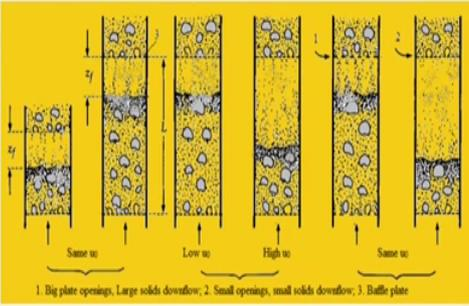

Fig. 5:
- Figure 5 illustrates how changes in the different variables will influence the interchange rate of solids between stages.
Figure 5 here in this case shows that that; how change in the different variables will influence the interchange rate of solids between stages there.